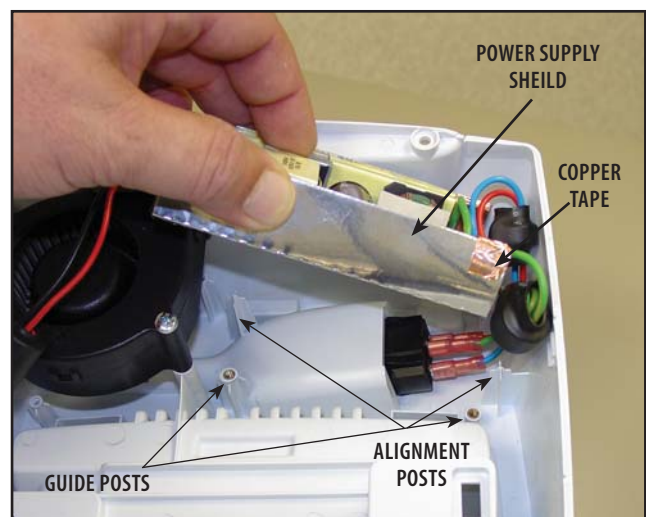

FIGURE 6.7
3. Lift Power Supply Assembly up to remove from mounting tabs. **See Figure 6.7.**
- When installing the shield on the Power Supply make certain that the shield does not get caught on the Power Supply guide posts. **See Figure 6.7**
9. Remove the Copper Tape from the shield. **See Figure 6.7.**